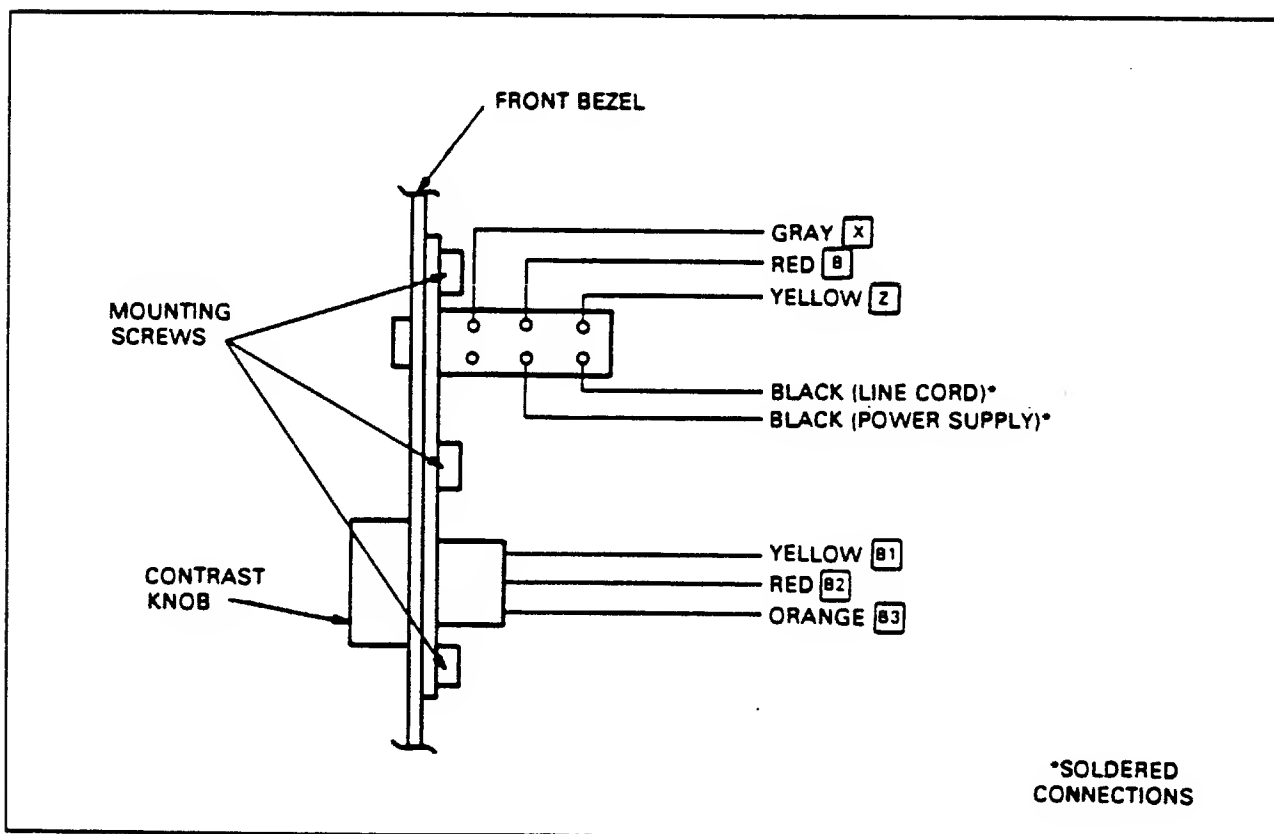

Figure 5-6. ON/OFF Switch/Contrast Pot Assembly
- Step 6: Unsolder the small diameter black line cord wire (refer to figure 5-6 for clarification).
- Step 7: Unsolder the large diameter black power supply wire. (Refer to figure 5-6 for clarification).